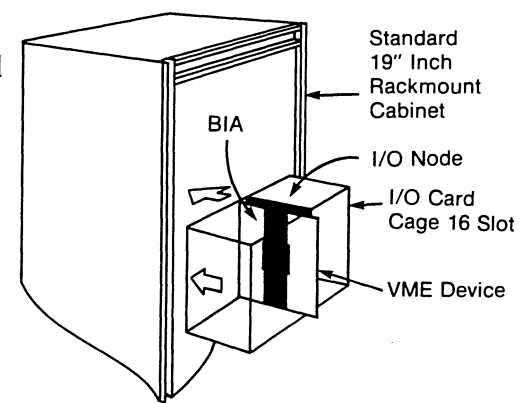

Figure 2
The VME interface has three standard components: (1) the VME compatible device chosen by the user, (2) an I/O node, which is an 80386-based processor, and (3) a Bus Interface Adaptor (BIA). The BIA translates between the VME bus and a local bus that comes off the I/O node. Physically, the BIA is a small circuit board connected into a backplane card slot next to the I/O node (See Figure 2). The outside edge of the adaptor presents a standard VMEbus circuit board interface across two connectors. The adaptor also changes the card slot depth into a standard six-unit, double-high Eurocard form factor.